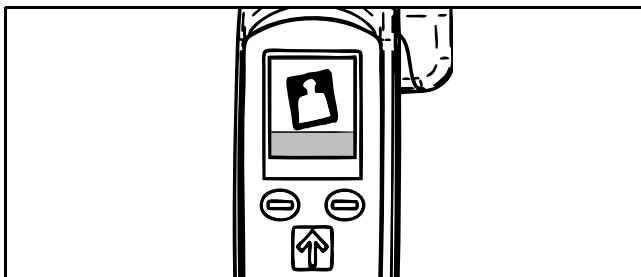

Fig. 59
**NOTE: FOR EUROPEAN SCALES ONLY,** If the display shows the larger “TILT” symbol alternating with the scale symbol, relocate the MAXI MOVE to a level position so that the scale can be operated correctly (see Fig. 59).